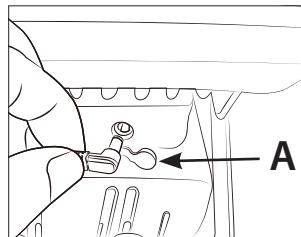

FIG. 3
1. Remove the waterproof plug (A) found in the AC Adapter socket. (Fig 3)